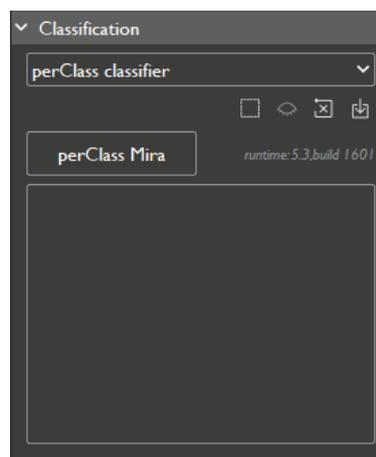

Figure 83 View of the classification panel when “*perClass classifier*” is selected
- Step 1** - Select “*perClass classifier*” using the pull-down menu (see Figure 83).
- Step 2** - Click on “*perClass Mira*” button to open the perClass Mira software (see Figure 83).